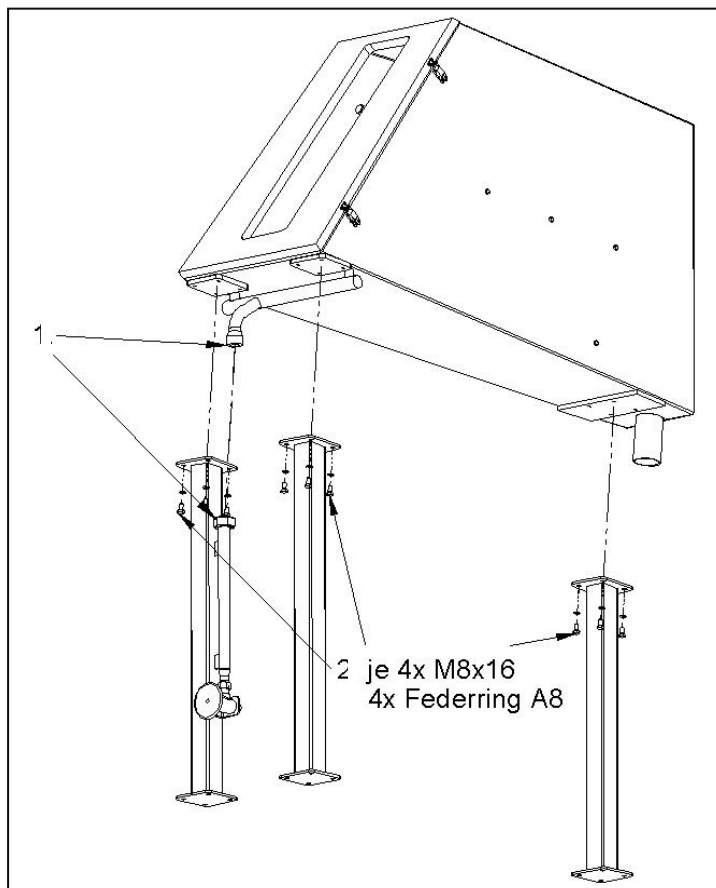

Fig. 5-3
1. Firmly screw the water tube (1) together (Fig. 5-3).
2. Screw the three legs to the top part of the machine using the screws (2) supplied (Fig. 5-3).